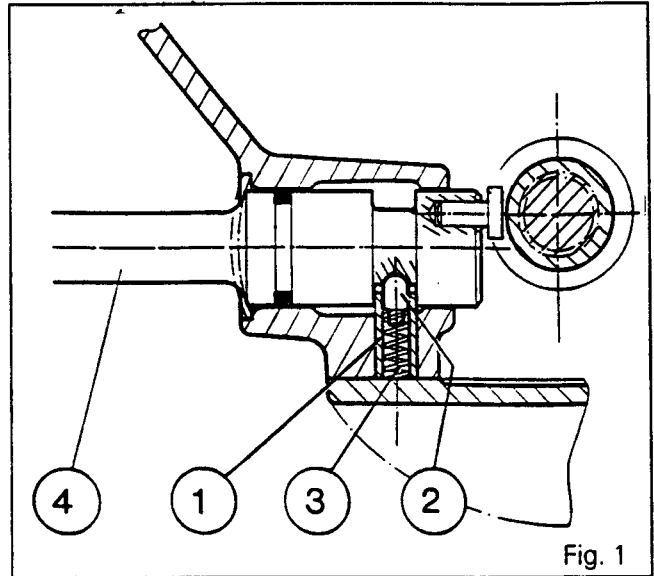

Fig. 1
3. Remove the bolts (10) and the cover (17).
Note : On tractors with a ground speed PTO (G.S. PTO), recover the spring (3), the plunger (2) and the retaining tube (1) (Fig. 1).